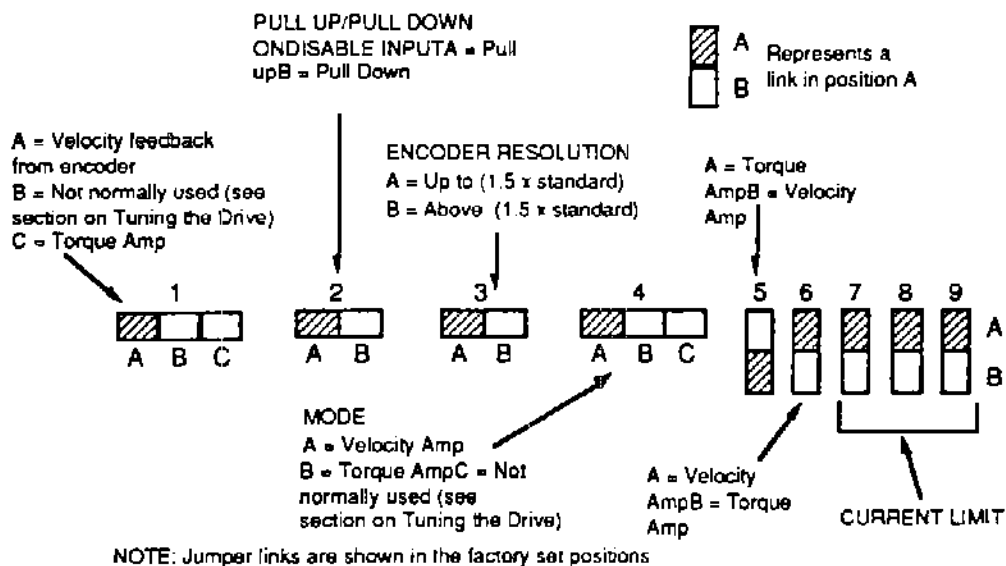

Figure 1-3. Jumper Link Setting Schematic
BL drive options are selected by means of nine jumper links as shown in Figure 1-3. A full description of the jumper link functions will be found under "Setting Up the Drive". See Table 3-8 for Current Limit link settings and Figure 3-7 for Pull Up/Pull Down on disable input.
For more information on jumper link settings see Figure 1-3 and Table 3-8.
3. Refer to Figure 1-3 and Table 3-8 and set the drive jumper links accordingly. Information on setting the jumper links will be found in the same section.